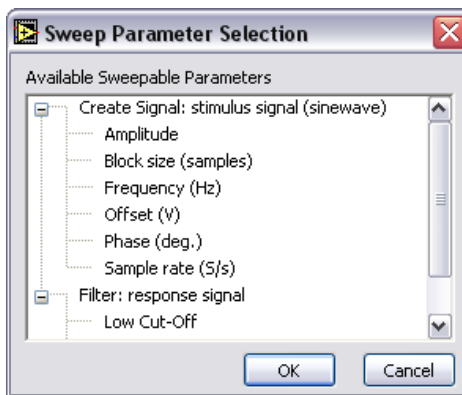

Figure 6-1. Sweep Parameter Selection Dialog Box
4. Click the **Add** button in the **Step Setup** dialog box to display the list of sweep parameters from each step in the project, as shown in Figure 6-1.